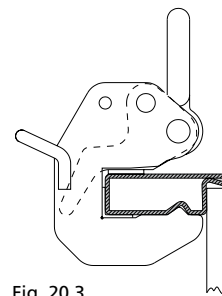

Fig. 20.3
3. Let go of the safety lever and it will go back to its start position and lock the crane hook (Fig. 20.3).